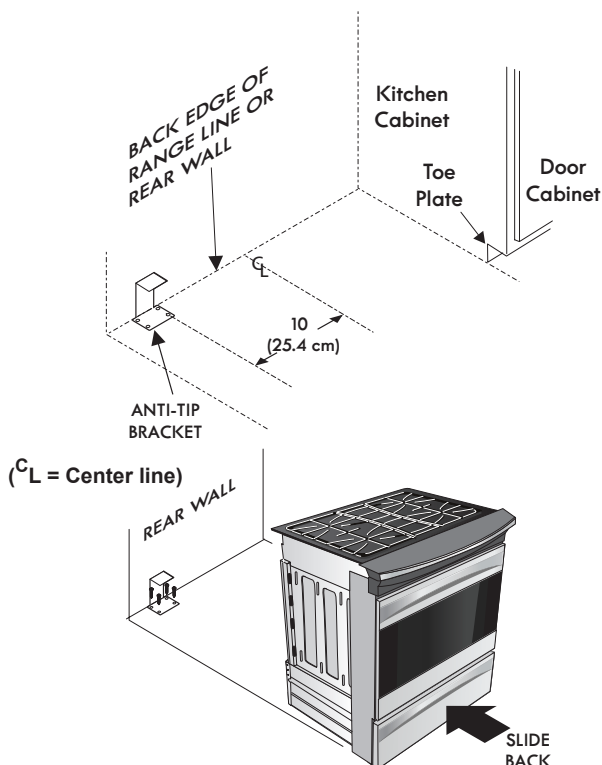

Figure 6
1. Draw a center line (CL) on the floor where the range should be installed. Also draw a line on the floor at the range back position if there is no wall.
2. Unfold paper template and place it flat on the floor with the right rear corner positioned exactly on the intersection of the center and back lines you just drew before. (Use the diagram below to locate brackets if template is not available (Figure 6)).